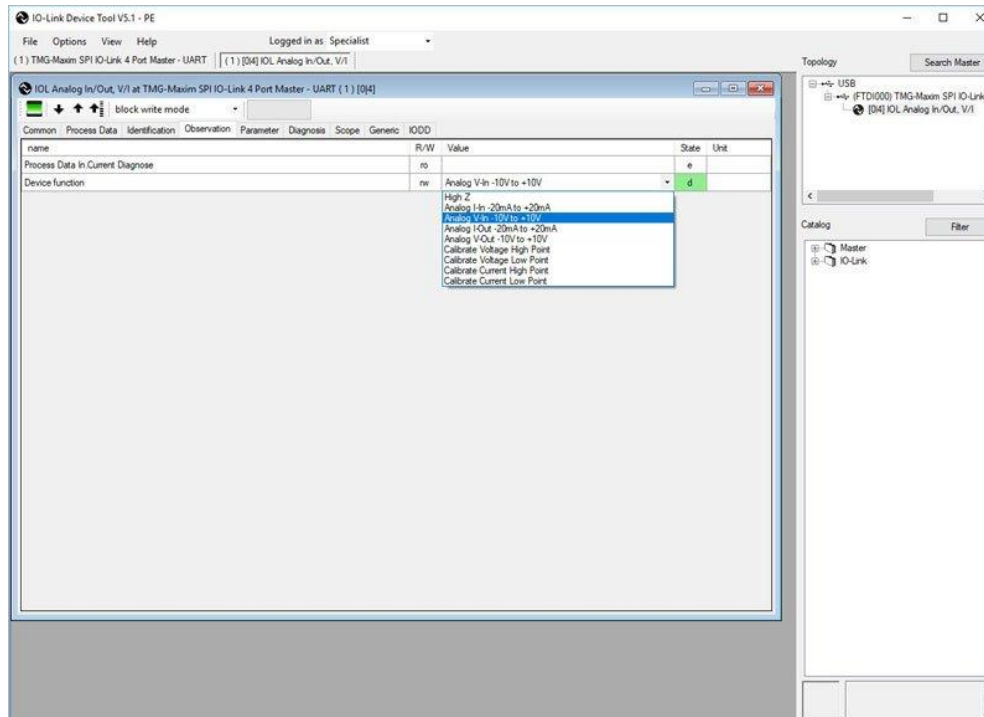
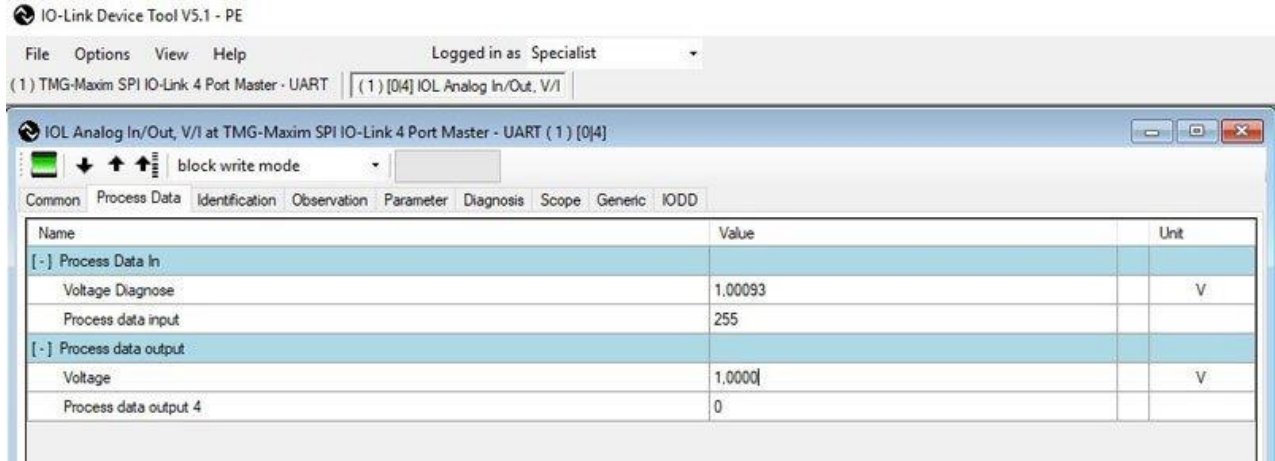

Figure 8. MAXREFDES177# analog output modes.
Figure 9. MAXREFDES177# analog data values.
9. Select the mode (analog output voltage) (**Figure 8** and **Figure 9**). Enter a value between -10 and +10 and read the voltage with a DMM connected to the AIO and AGND terminals. The output voltage is 1V in this example.